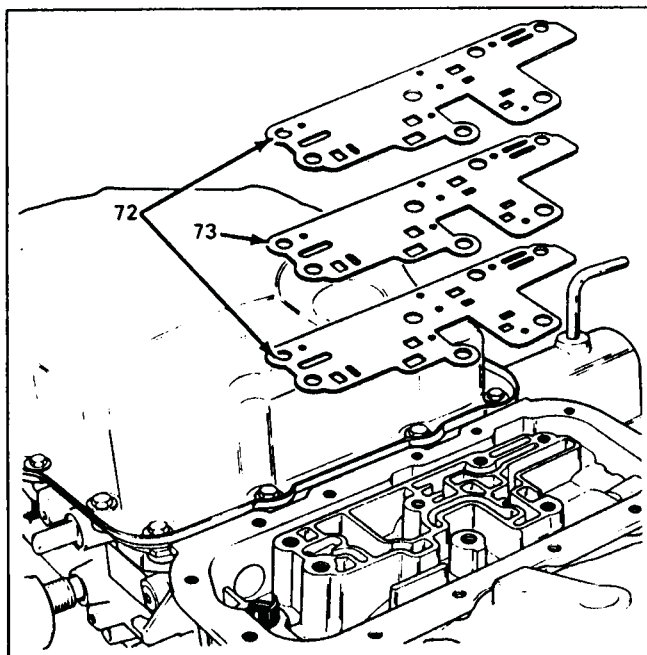

Figure 8
12. Remove the adapter case valve body spacer plate and both gaskets as shown in Figure 8.